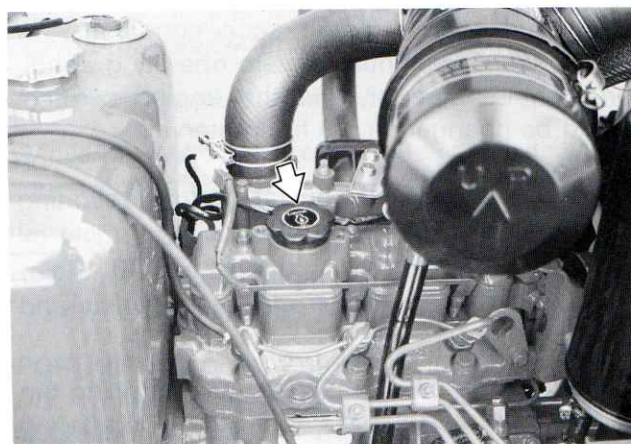

Figure 35 — Engine Oil Filler Cap
2. If the oil level is low, remove the filler cap, Figure 35 and add oil to the engine through the filler hole to bring the oil level between the marks on the dipstick. Be careful not to overfill.